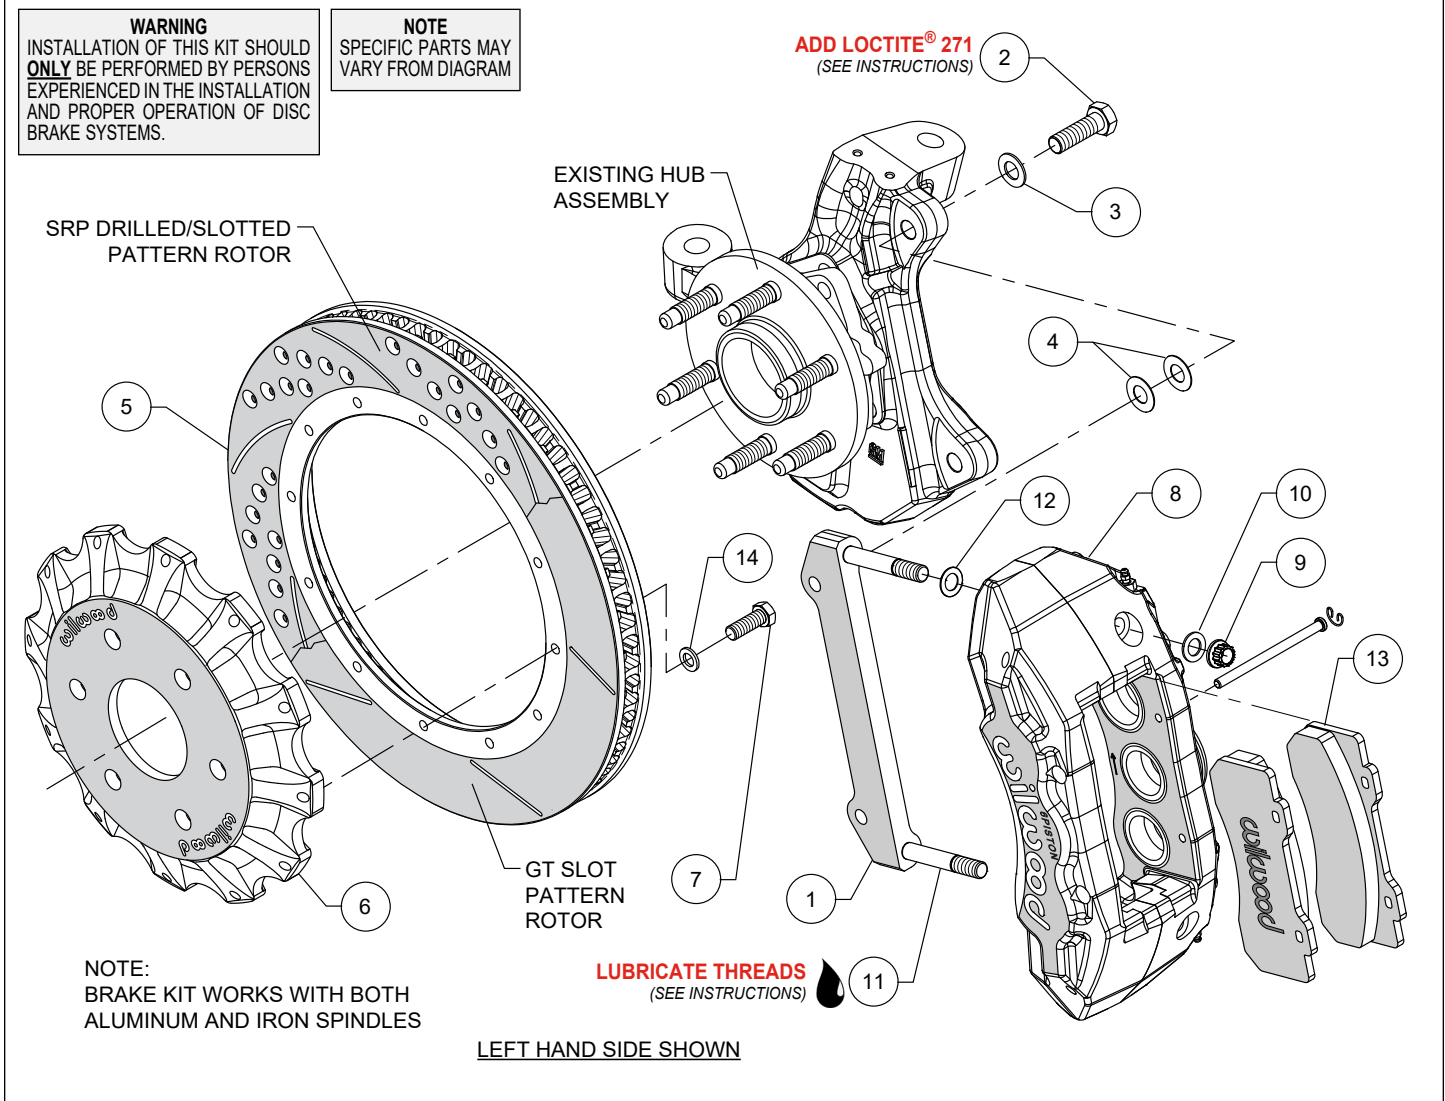
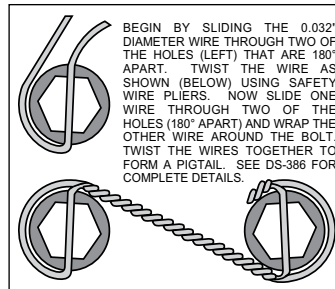

Figure 1. Typical Installation Configuration
Figure 3. Safety Wire Diagram
NOTE: Numbers in parenthesis refer to the parts list and Figure 1 on the preceding pages.
- The caliper mount bracket (1) should initially be installed with clean, dry threads on the mounting bolts. Orient the bracket as shown in Figure 1 and Photo 1, and install using bolts (2) and washers (3). Initially place two .029 thick shims (4) on each bolt between the bracket and upright, Figure 1. Temporarily tighten the mounting bolts. **NOTE:** *The bracket must fit squarely against the mount bosses on the upright.* Inspect for interference from casting irregularities, machining ridges, burrs, etc. Later, after the caliper alignment has been checked, the mount bolts will be secured using red *Loctite*® 271.
- Orient the rotor (5) and the hat (6) as shown in Figure 1 and Photo 2. Attach rotor to hat using bolts (7) and washers (14). Apply red *Loctite*® 271 to the bolt threads and torque to 25 ft-lbs using a criss-cross pattern. For an added measure of security, the bolts may be safety wired using standard 0.032 inch diameter stainless steel safety wire as shown in Figure 3. Please refer to Wilwood's data sheet DS-386 (available at www.wilwood.com/Pdf/DataSheets/ds386.pdf) for complete safety wire installation instructions.
- NOTE:** *This kit contains distinct right and left hand calipers that must be mounted in a specific direction, as described below.* Lubricate the caliper mounting studs (11) with lightweight oil. Initially place one .032" thick shim (12) on each stud as shown in Figure 1 and Photo 3. Mount the caliper (8) onto the bracket (1) using lock nuts (9) and washers (10), Figure 1. Ensure that the caliper is mounted so that the largest pistons are at the rotor exit end of the caliper, in relation to the direction of rotor rotation. Temporarily tighten the lock nuts and view the rotor through the top opening of the caliper. The rotor should be centered in the caliper, Photo 4. If not, adjust by adding or subtracting shims (4) between the bracket and the upright. Always use the same amount of shims on each of the two mounting bolts. Once the caliper alignment is correct, remove the bracket mounting bolts (2) one at a time, apply red *Loctite*® 271 to the threads, and torque to 77 ft-lb.